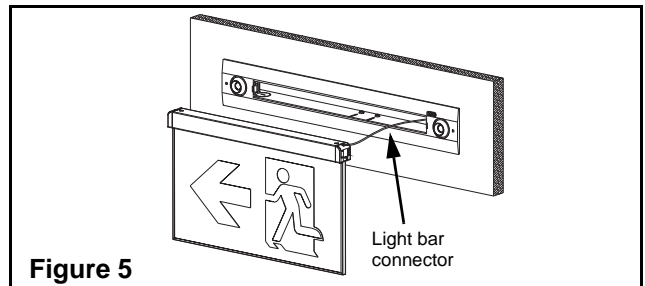

Figure 5
12. Connect the light bar connector and snap the light bar into the trimplate (see fig.5 & 6).